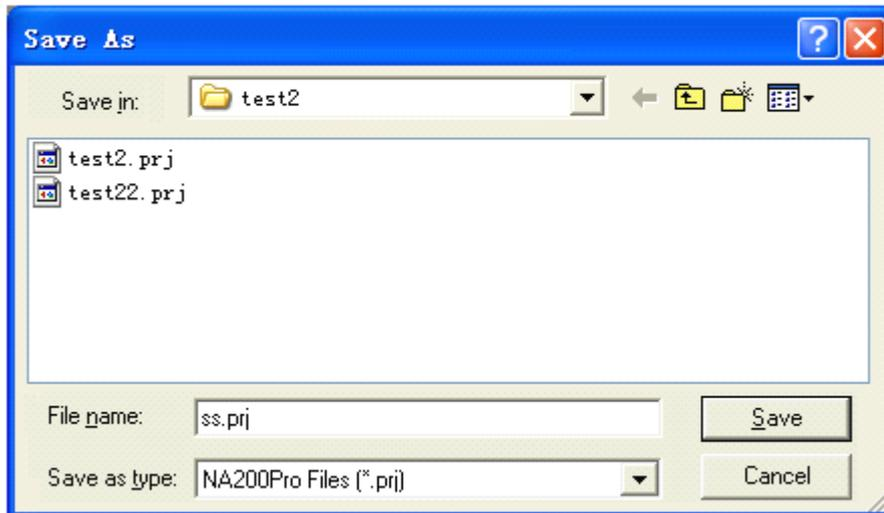

Fig.2.8 Save project
**【Save】** : Save the being edited project file. If the being edited file is an existed file, then directly overwrite the original file; if the being edited file is a new file, the programming software will pop up the **Save As** dialog box requiring to input the file name, as shown in Fig.2.8: